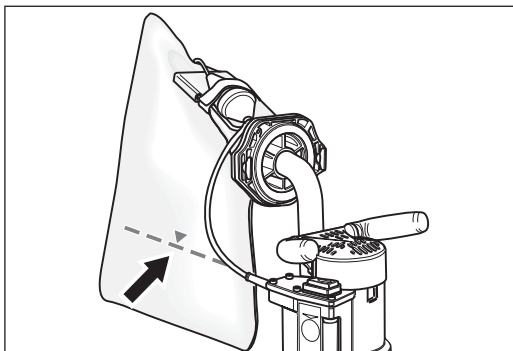

Fig. 20 The horizontal line marks the maximum fill level of the dust bag.
- **The dust bag must be emptied when it is one-third full at the very latest in order to prevent a deterioration of the suction performance due to the lack of filtering surface area! The horizontal line on the outside of the dust bag marks the maximum fill level (fig. 20)!**